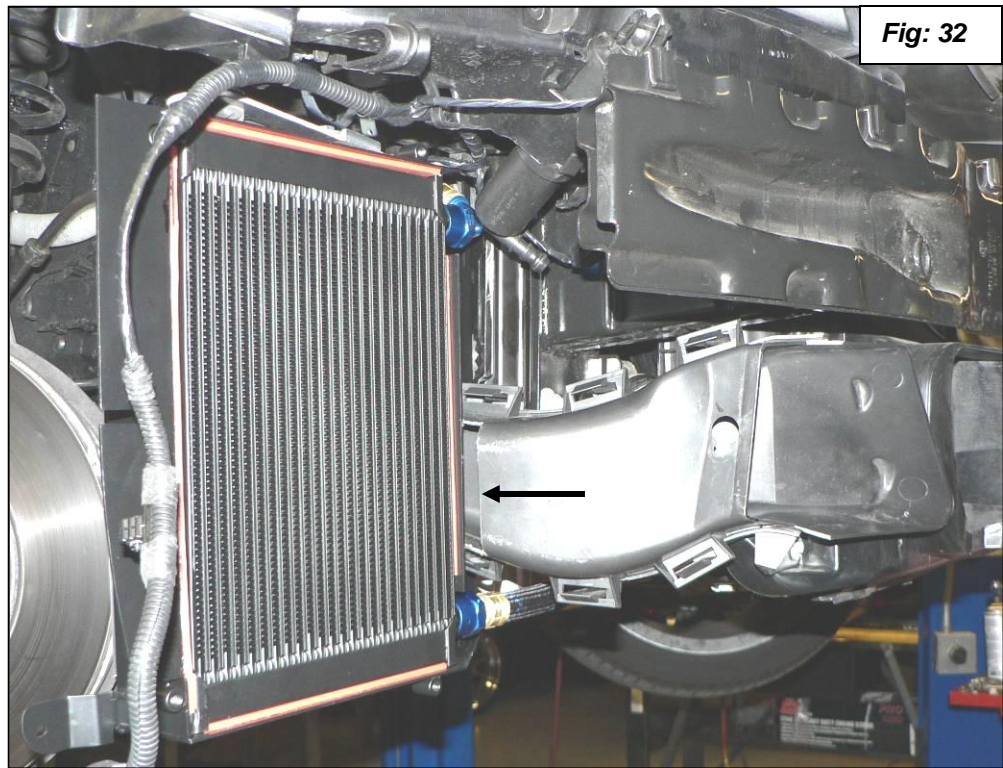

Fig: 32
40. Install the modified brake duct and check for clearance. With the oil cooler in a relaxed position you should have about $\frac{1}{2}$ " clearance as shown in **figure 32**.